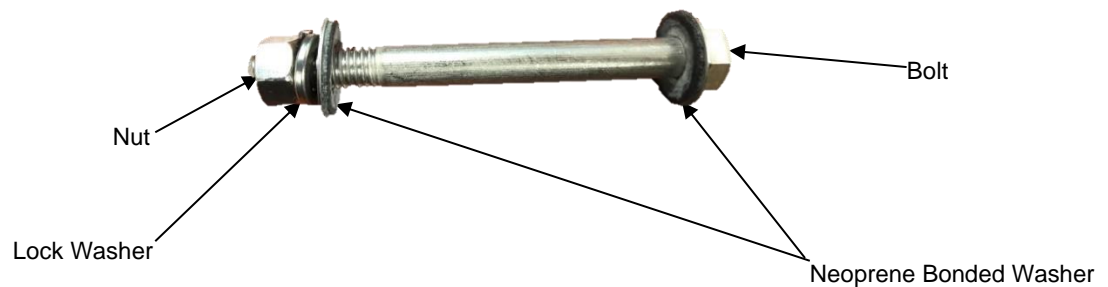
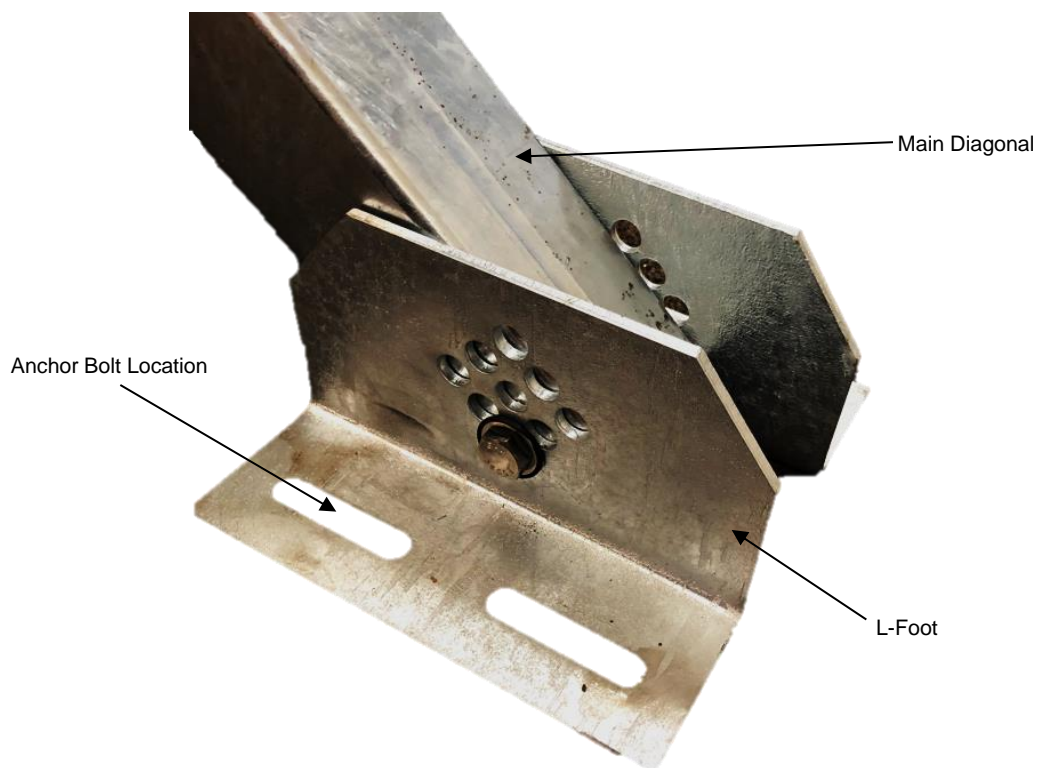

Figure 3: Hardware Set Arrangement
Figure 6: A-Frame Foot (Front Foot Shown)
- c. Hand tighten the 4 sets of 3/8" hardware (see Figure 1 for locations) with the lock washer positioned between the neoprene bonded washer and the hex nut (see Figure 3 for hardware set arrangement).
- g. Attaching the Datum Foot to the A-Frame: The hardware arrangement will be the same as Figure 3. Lift the A-Frame assembly to install the L-Feet on the front or rear (as per Figure 6) of the datum foot. Tighten the bolt to the point where the lock washer is just under tension. Assemble the other foot using the appropriate bolt position from your measured vertical difference as in step 'e'. Tighten the bolt to the point where the lock washer is just under tension.
- a. Mount Cross-Bracing to A-frames using the Cross-Brace hardware using the hardware arrangement in Figure 3.